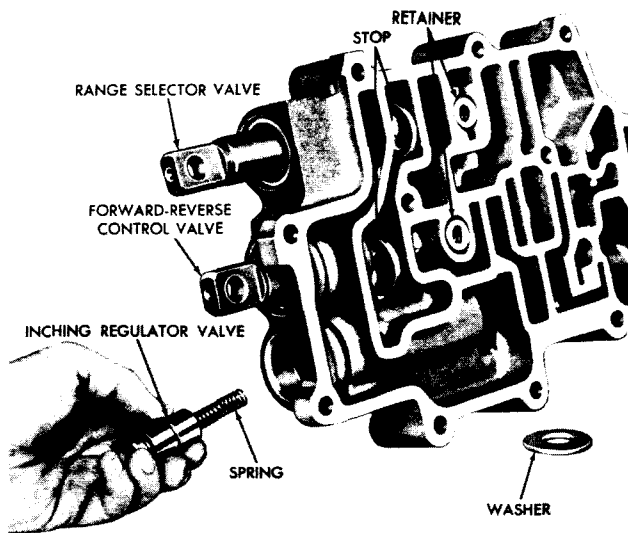

Fig. VI-9. Removing (or installing) inching regulator valve and spring
(4) Remove the inching regulator valve and spring (fig. VI-9).
(5) Remove two spring retainers from the valve body (fig. VI-9). Remove the two springs and detent balls which are under the retainers.
(6) Remove two valve stops (fig. VI-9).
(7) Remove the range selector valve and the forward-reverse control valve (fig. VI-9).
(8) Remove the remaining detent ball and spring from each valve bore.
(9) Remove the valve stem oil seals (fig. VI-9).
(10) Remove two plugs 3 (B, foldout 14) and plug 2.
(11) Remove bushings 17 and 19 from valves 16 and 20 if parts replacements are necessary.
c. Assembly (item 1, B, foldout 14)
(1) If bushings 17 and 19 were removed from valves 16 and 20, install new bushings. Press the bushings into the valve stems until they are flush with, or below, the surface of the stems.
(2) Install plugs 2 and 3 into control valve body 10.
(3) Position the valve body, mounting side upward, and install spring 5 and detent ball 6. The hole into which these parts install intersects the range selector valve bore.
(4) Insert a small punch or pin to depress the ball and spring. Install range selector valve assembly 14, removing the holding tool when the end of the valve catches the detent ball. Push the valve to a detent position.
(5) Install remaining detent ball 6 and spring 7. Install retainer 8, pressing it to flush with, or 0.020 inch (0.5 mm) below the mounting surface of the valve body.
(6) Install spring 9, detent ball 4, forward-reverse control valve assembly 18, remaining spring 9, remaining detent ball 4, and remaining retainer 8. Use the same procedures outlined in (3) through (5), above.
(7) Install the valve stops on the range selector and forward-reverse control valves (fig. VI-9).
(8) Install seal 13 (B, foldout 14), with spring-loaded side inward, onto the range selector valve stem.
(9) Install seal 21 onto the stem of the forward-reverse control valve and press it into the valve body as outlined in (8), above. Seal 21 is identical to seal 13 and installation is identical.
(10) Install the inching regulator valve spring and valve (fig. VI-9).